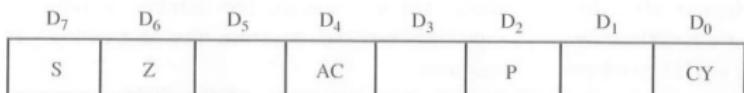

Figure 20: The Intel 8085 flag register
- The flag register is shown in figure 20